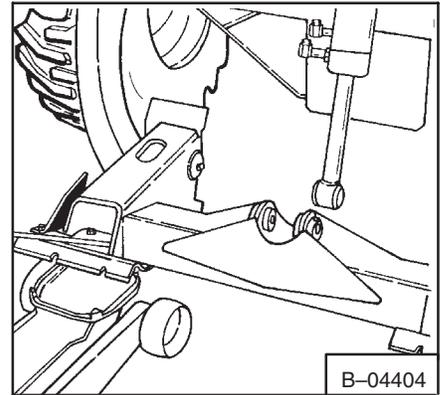

Fig. 2-85 Floor Jack Under Bob-Tach
4. Put a floor jack under the Bob-Tach (Fig. 2-85).